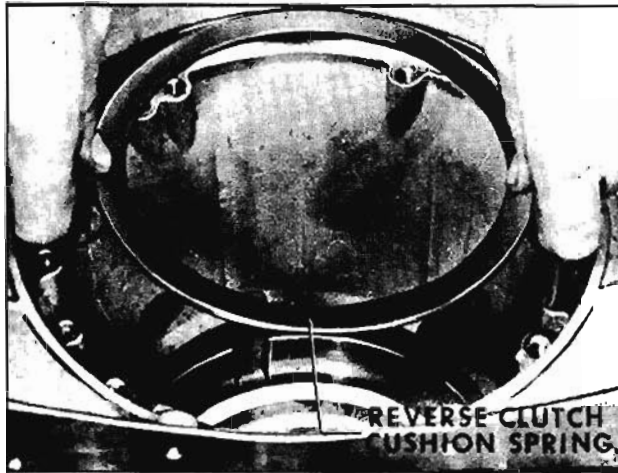

Fig. 6-293 Removing Reverse Clutch Cushion Spring
4. Remove reverse clutch cushion spring. (Fig. 6-293)